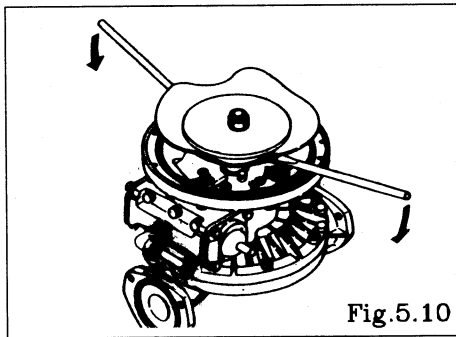

Fig.5.10
- Grip the inside center disk using crowbars and draw it to the opposite side, then turn the Diaphragm over. (exclude B_H, B_S type) [Fig. 5.10, 5.11]